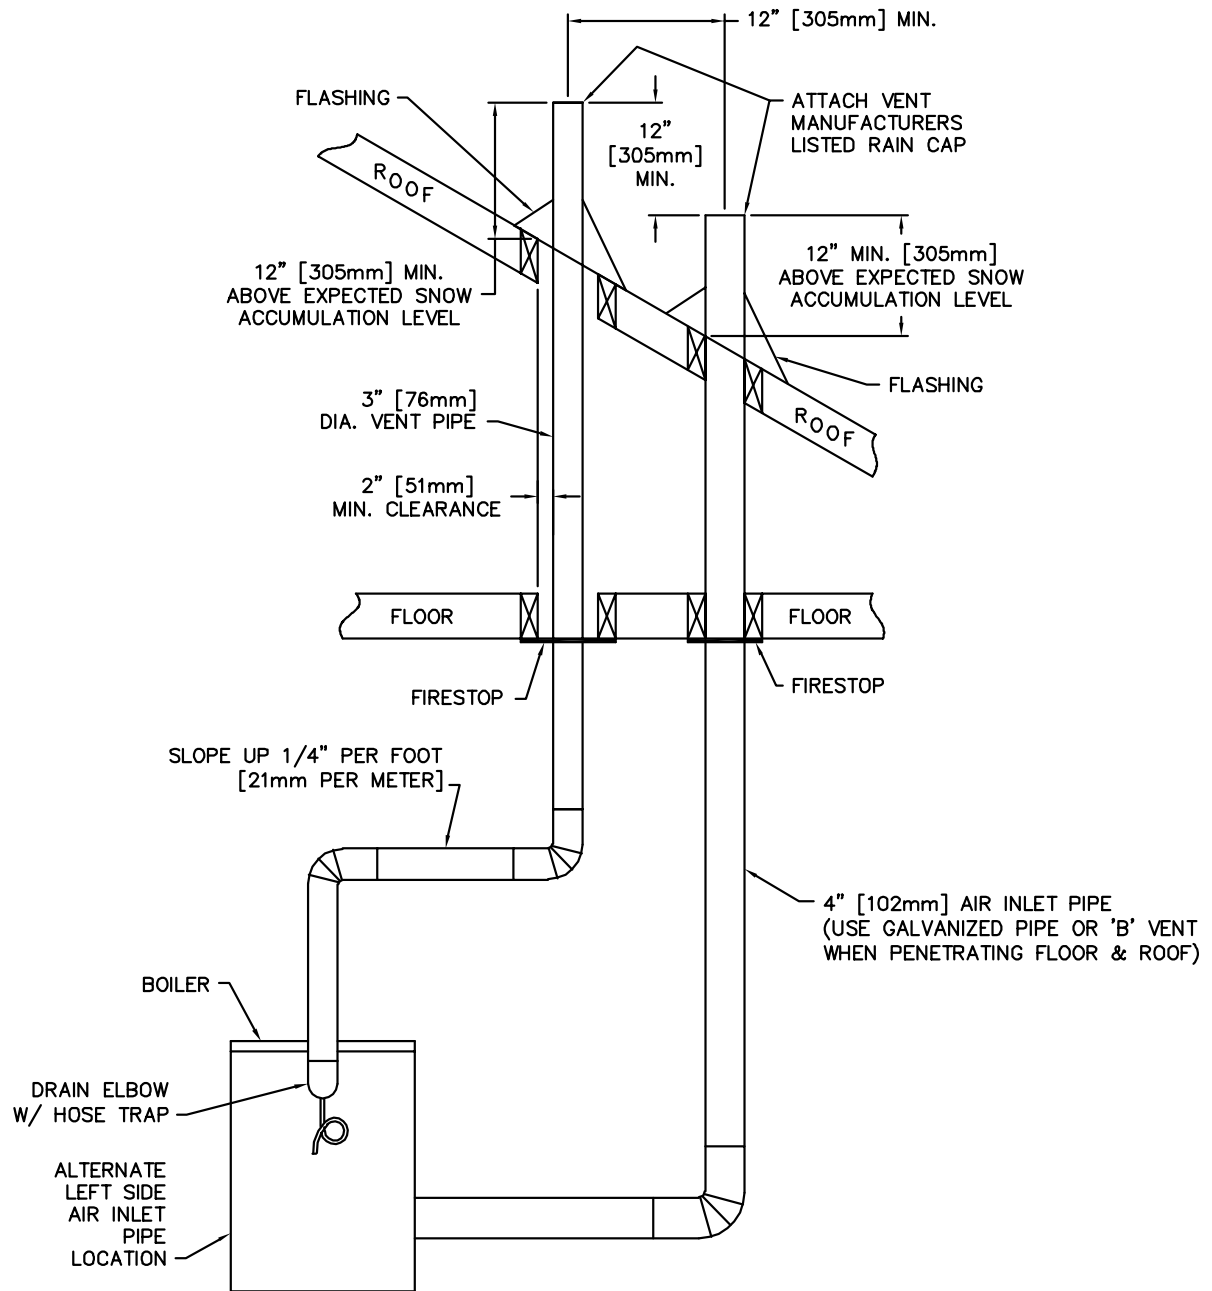

Figure 4.3: Vertical Venting System
2. Vent pipe and air inlet pipe must terminate a minimum of 12" (305 mm) above expected snow accumulation level. Vent pipe must be a minimum 12" (305 mm) above and 12" (305 mm) horizontally from air inlet pipe. See Figure 4.3.